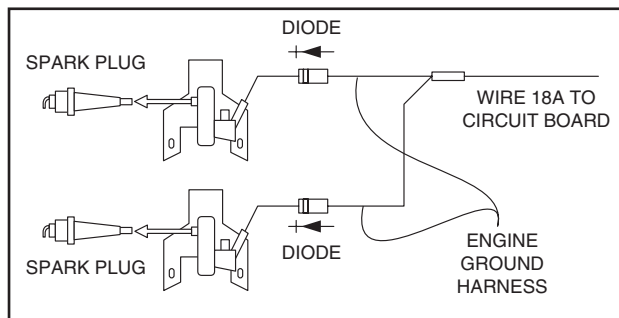

Figure 7-38. – Engine Ground Harness
- Disconnect the engine ground harness from the ignition magnetos and stud connector (see Figure 7-38).